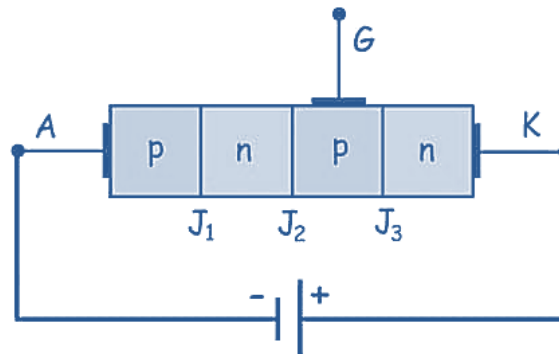

Fig.2.23: SCR under reverse blocking Mode
- Here, the SCR is reverse biased by connecting its anode (A) to negative end and the cathode terminal (K) to the positive end of the battery as shown in the fig.2.23.